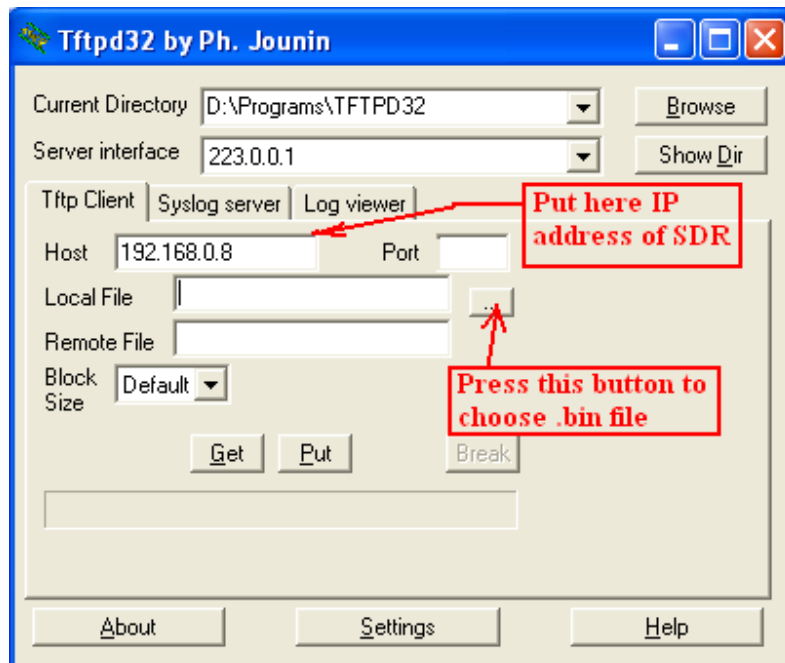

Figure 8 Tftpd32 utility (red color writings shows author's comments)
- 3.1.6. You need to start tftpd32.exe utility, screen-shot of this utility is shown on **Figure.8**
After first start of this utility you can (but not must) configure it to run only in tftp client mode, to do this you need to press "Settings" button (see **Figure.8**). In "Tftp Client" tab you need to enter IP address of AFEDRI SDR-Net receiver.